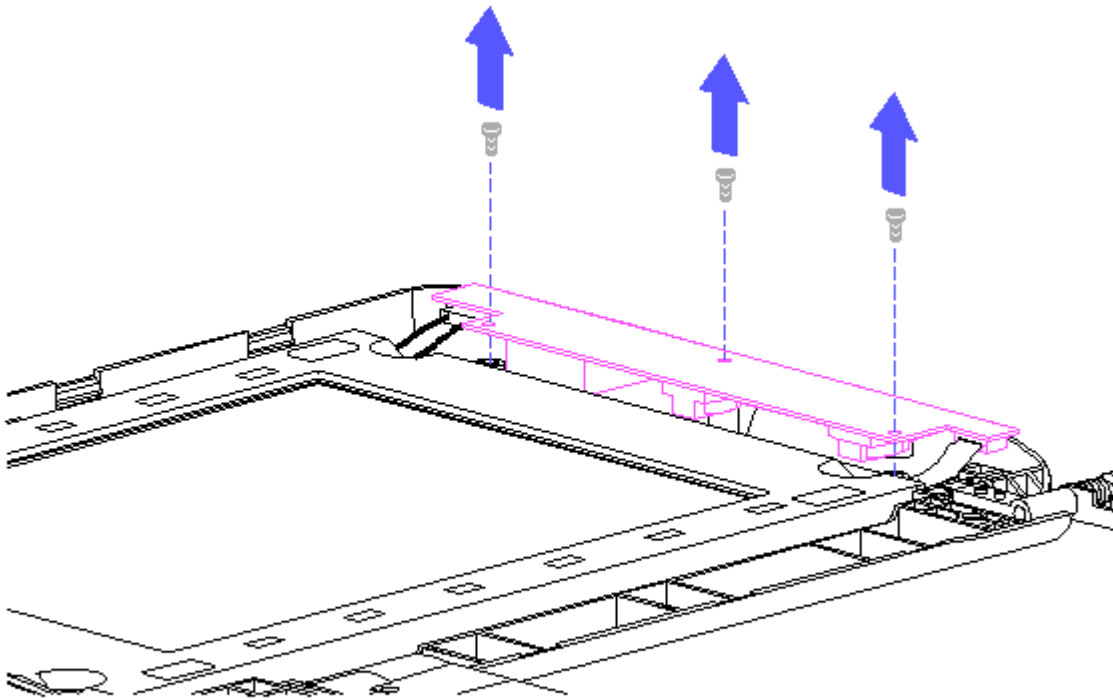

Figure 3-28. Removing Screws from the Inverter Board
2. With a Phillips screwdriver, remove the three screws that secure the inverter board to the display enclosure (Figure 3-28).